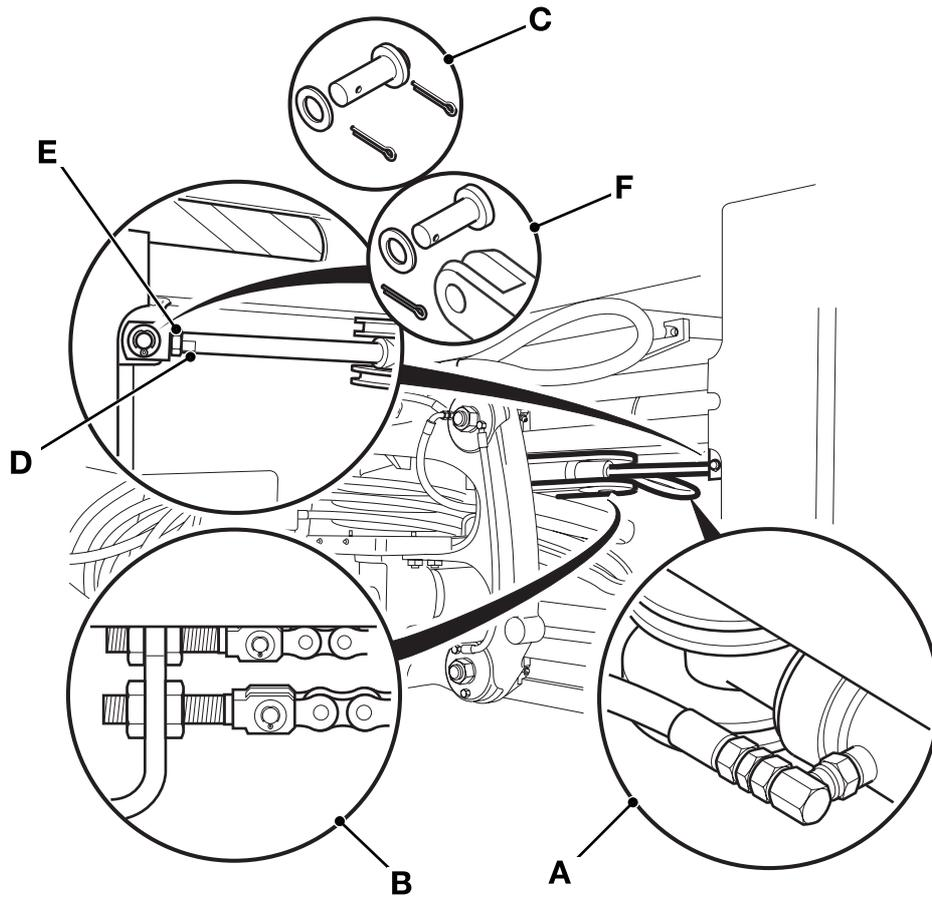

Fig 11. Power Sideshift Ram
- 4 → Fig 11. \(□ B-138\). Disconnect hydraulic hoses **A** and plug.